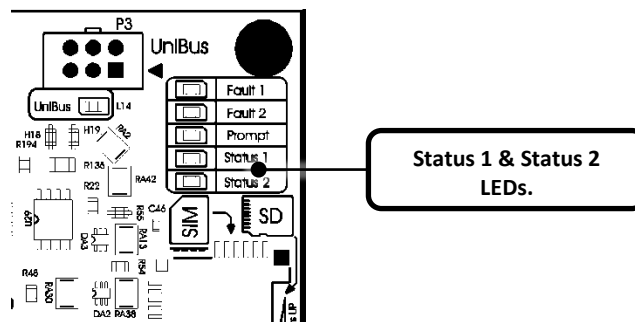

Figure 38
2. Wait for the controller to start. When the controller is up and running, the Status 1 and Status 2 LEDs will flash in an alternating pattern (Figure 38).
2. Wait for the controller to start. When the controller is up and running, the Status 1 and Status 2 LEDs will flash in an alternating pattern (*Figure 38 above*).